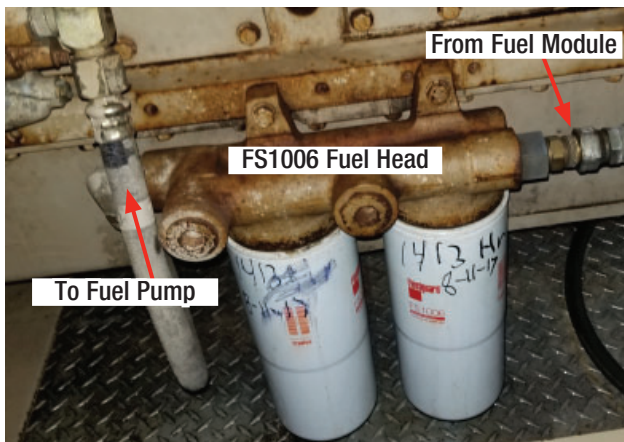

Figure 1: Before 500 SE Upgrade
1. Locate the dual FS1006 filter head on the left bank of the engine (see figure 1).